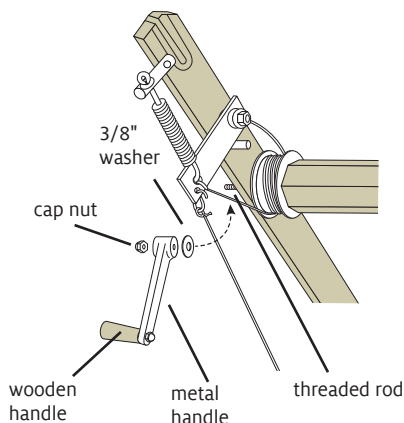

FIGURE 2: WARP BEAM CRANK HANDLE
10. The warp beam crank handle attaches to a threaded rod on the inside right leg (Figure 2). Locate the washer, cap nut, and the warp beam crank handle in the accessory pack. Place the 3/8" washer and then the metal handle on the rod, with the wooden handle facing out. Secure with the 3/8" cap nut.